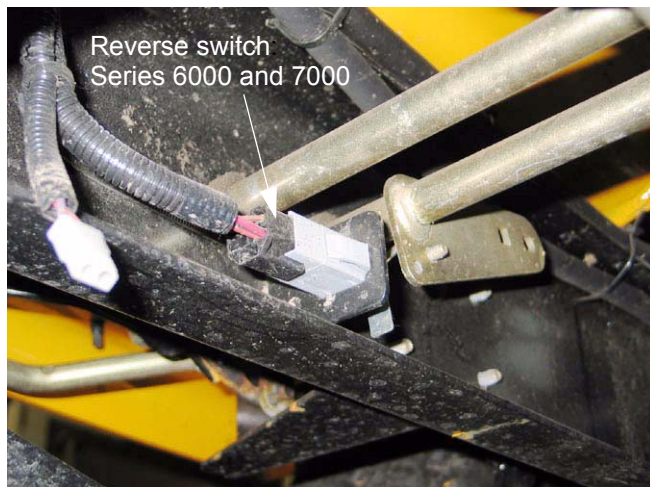

Figure 2.21
2.21. The reverse switches differ between the Series 5000 tractor and the other domestic compact tractors. See Figure 2.21.